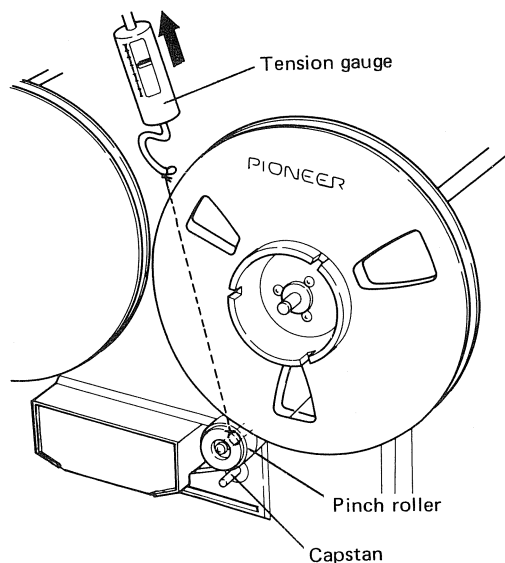

Fig. 10
6. Get the tape running at 19cm/s (7-1/2 ips) and attach the tension gauge to the pinch roller as shown in Fig.10. Increase the tension until the pinch roller separates from the capstan and tape motion ceases. Check to ensure that the measured tension under these conditions is between 1.7~2kg.